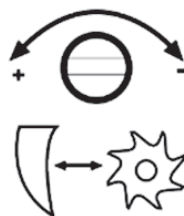

Fig. 8
3. Turn the counterblade adjuster (5) slowly clockwise until you hear scraping noises (Figs. 8, 9). Small aluminium shavings will come out of the discharge chutes.
4. Turn the lock ring (6) clockwise, to secure the position of the counter blade adjuster (5).